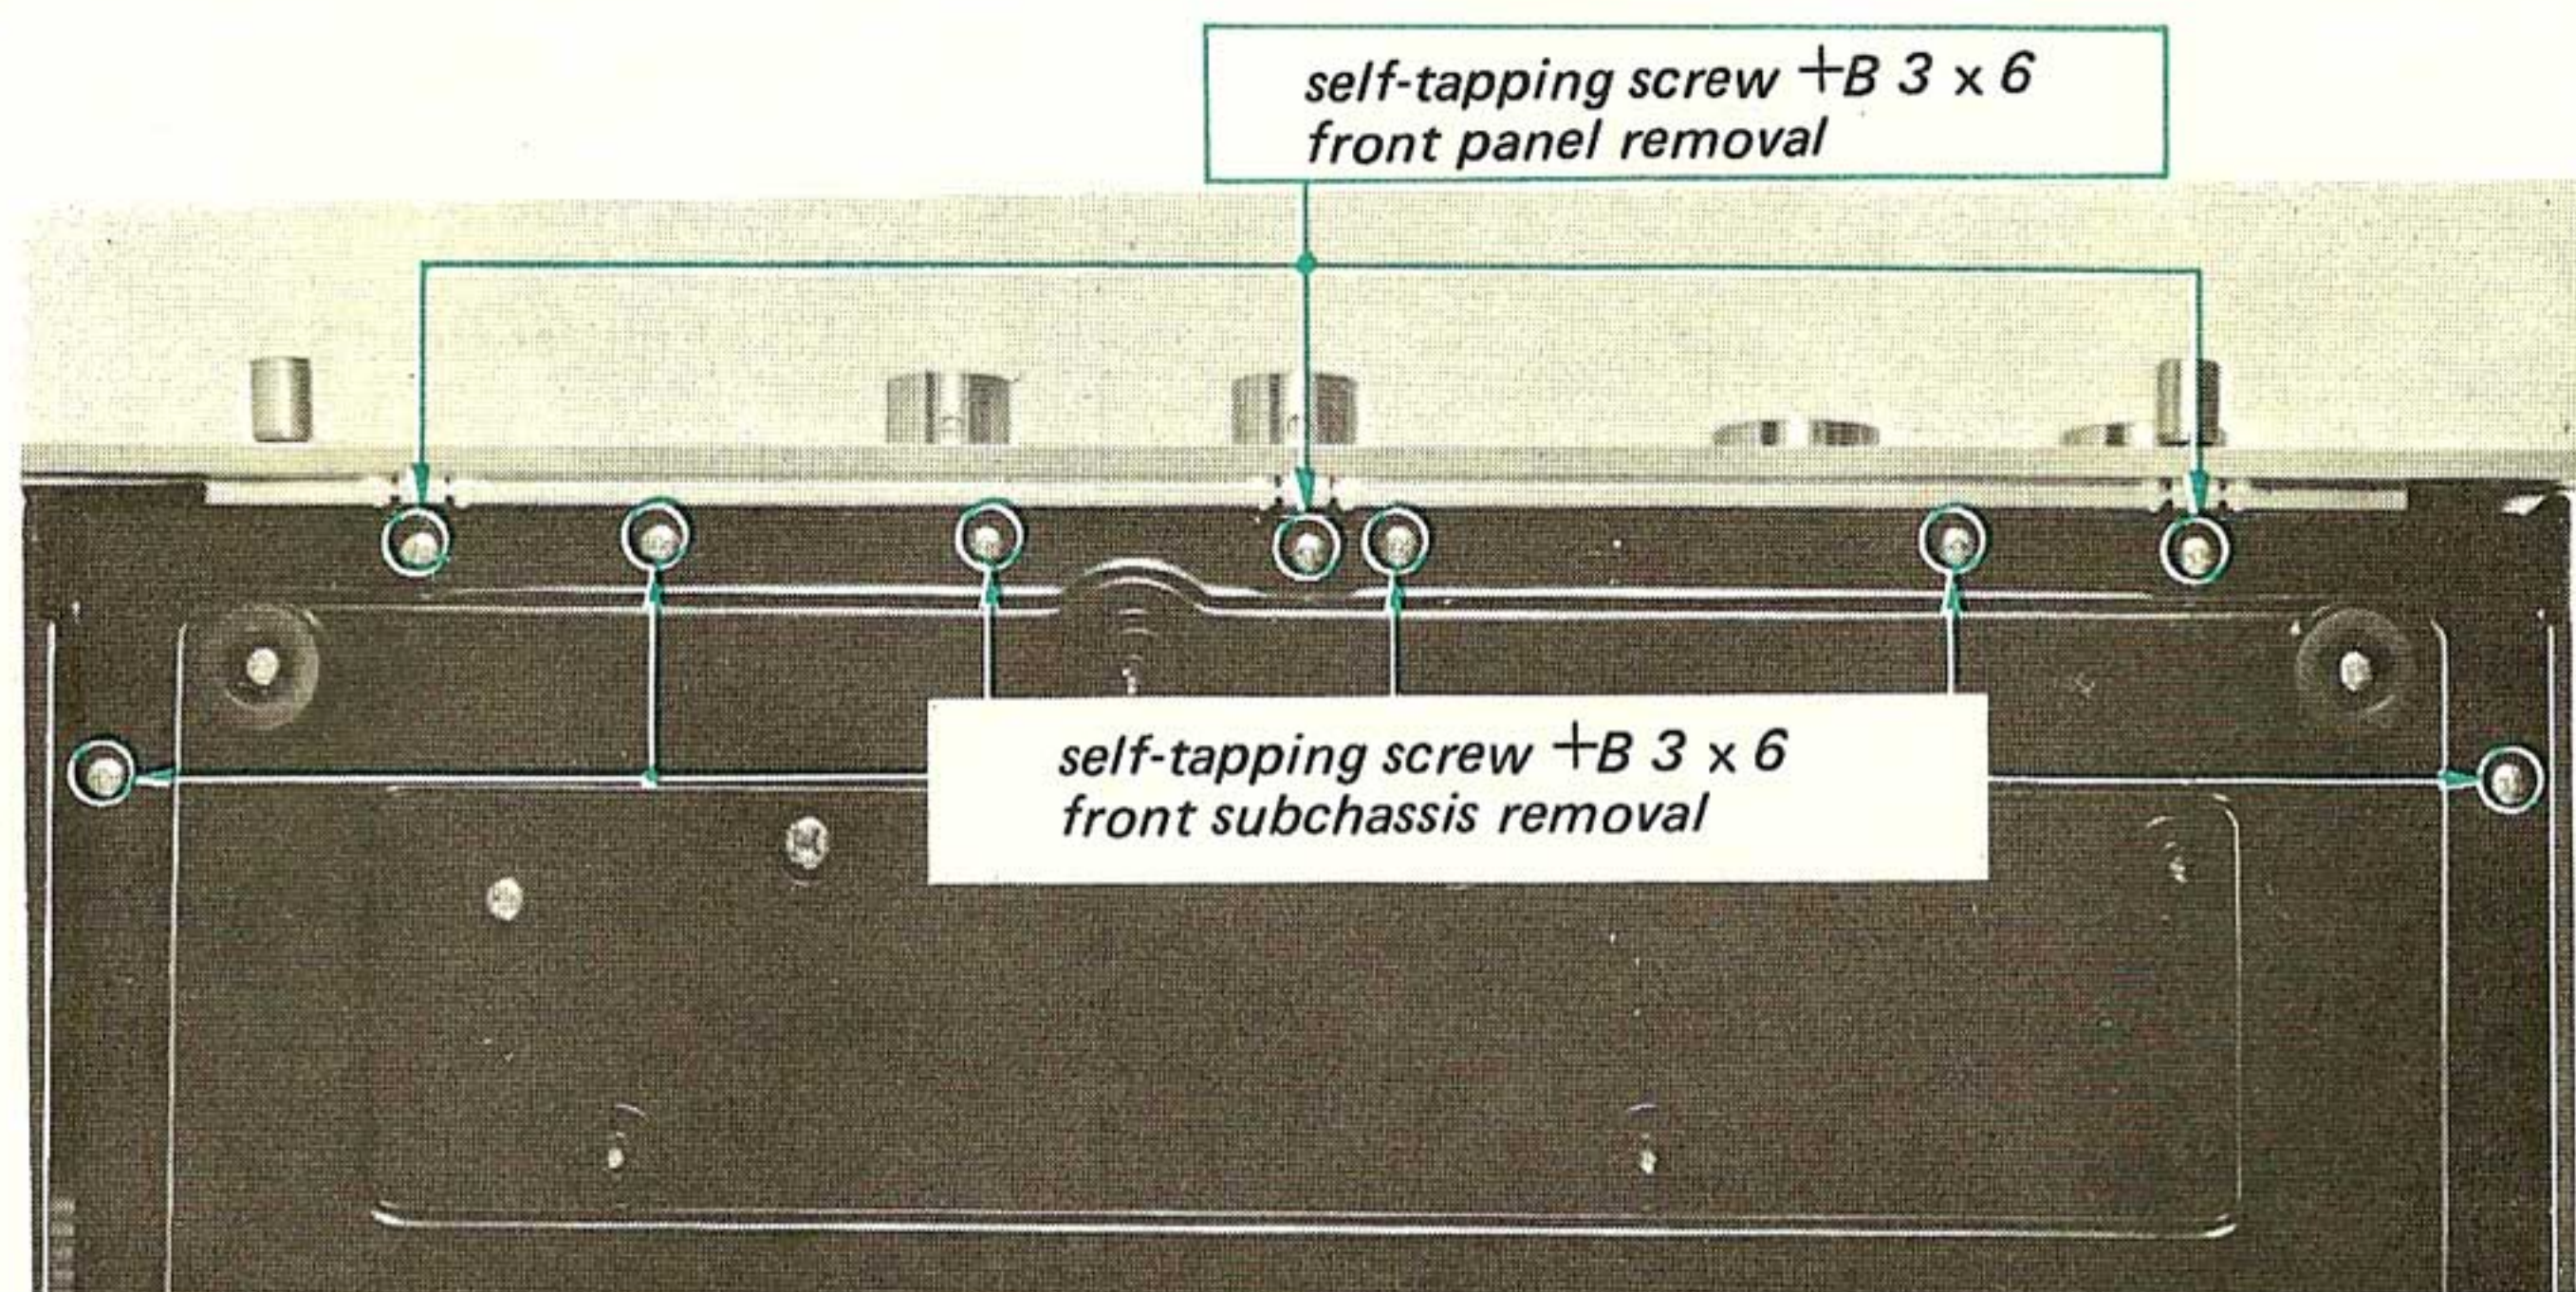

Fig. 2-3 Front panel and front subchassis removal
4. Remove the three self-tapping screws (+B 3 X 6) at the front bottom side of the chassis as shown in Fig. 2-3. This frees the front panel.
2. Remove the six self-tapping screws (+B 3 X 6) at the front bottom side of the chassis as shown in Fig. 2-3.